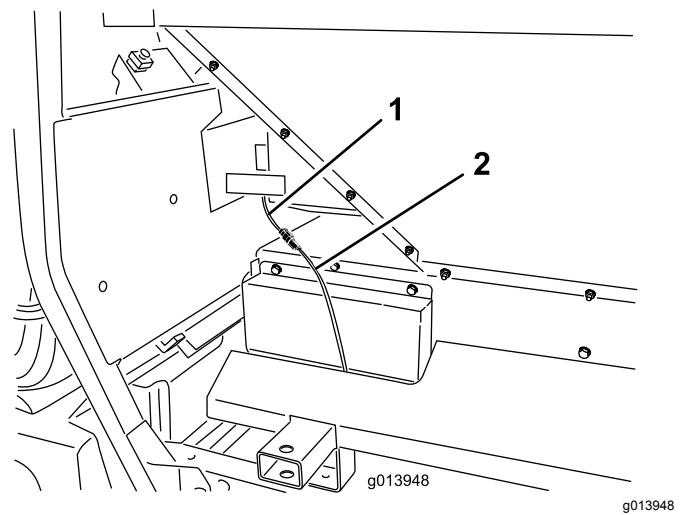
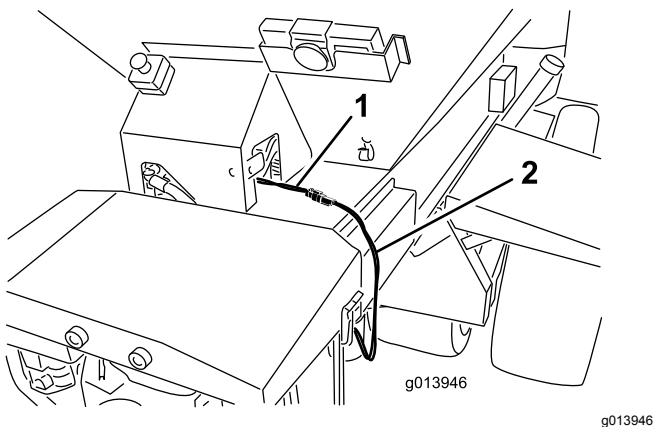

Figure 19
Figure 18
46. Plug the intermediate wiring harness into the power harness connector on the ProPass (Figure 18 or Figure 19).